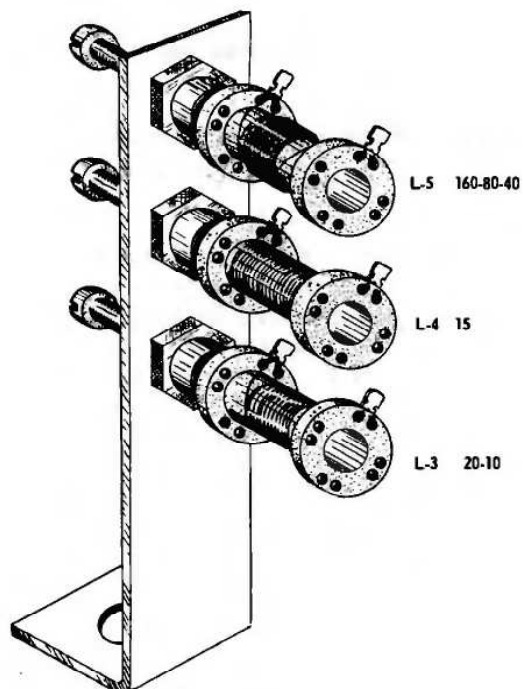

FIG. 3
- (a) Alignment of the 6CI6 stage involves peaking three ceramic slug tuned coils under the main chassis. These coils are mounted in line on a bracket near the EXCITER bandswitch, the coil nearest the chassis being 10-20 meters, the middle coil 15 meters and the coil at the top of the bracket 160-80-40 meters. Refer to Figure 3. Set the VFO pointer to 7.0 MC.